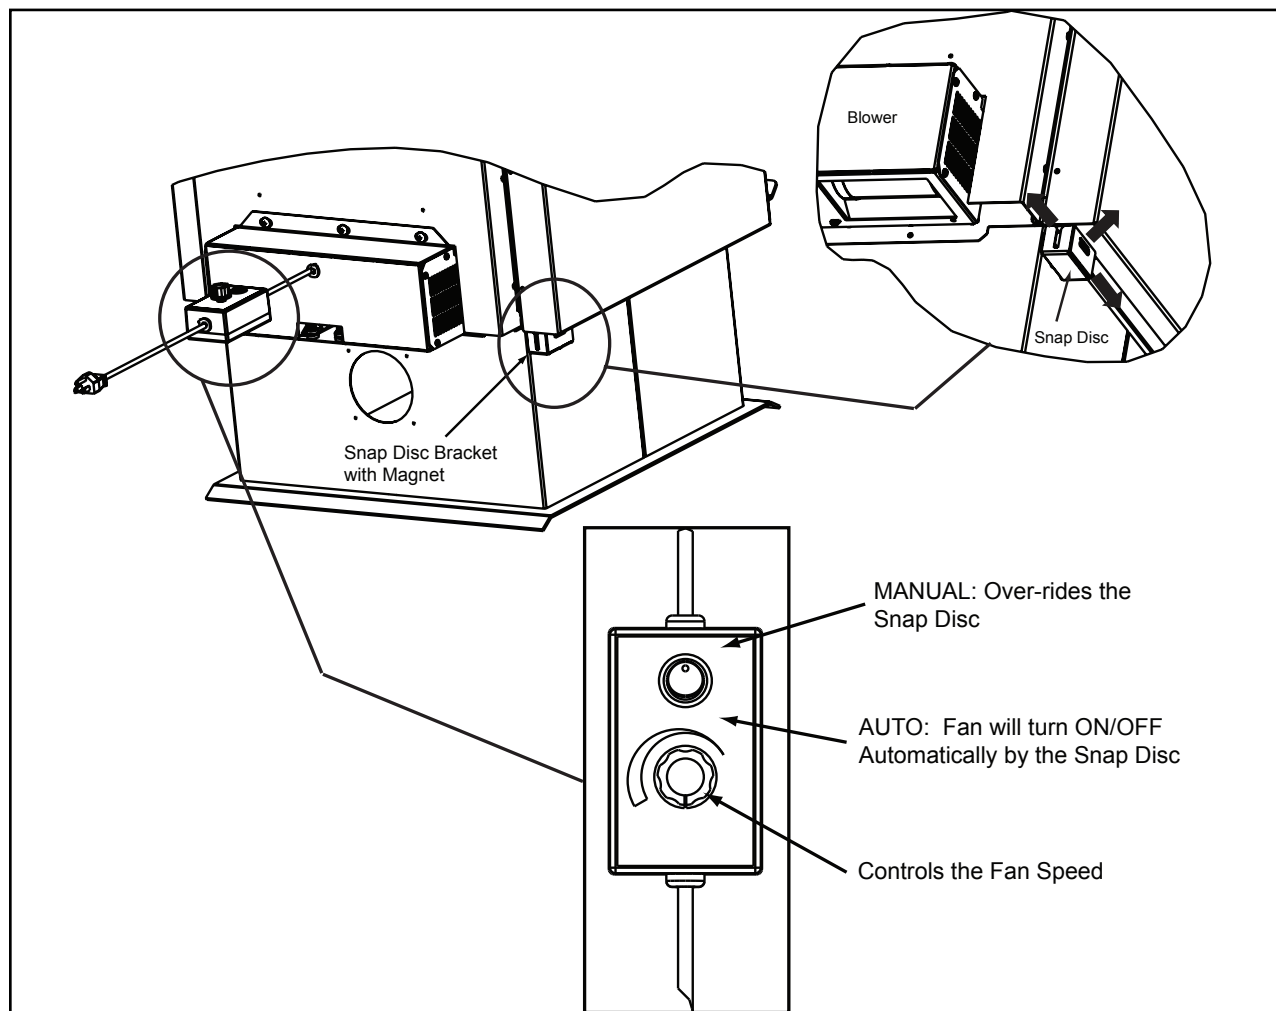

Figure 40.1
1. Align holes in mounting flange of blower with bolt holes in appliance. Blower should be positioned at bottom of rear outer skin as shown in **Figure 40.1**.
- 3 Place the bracket containing the snap disc and magnet under the bottom left rear corner as shown in **Figure 40.1**.